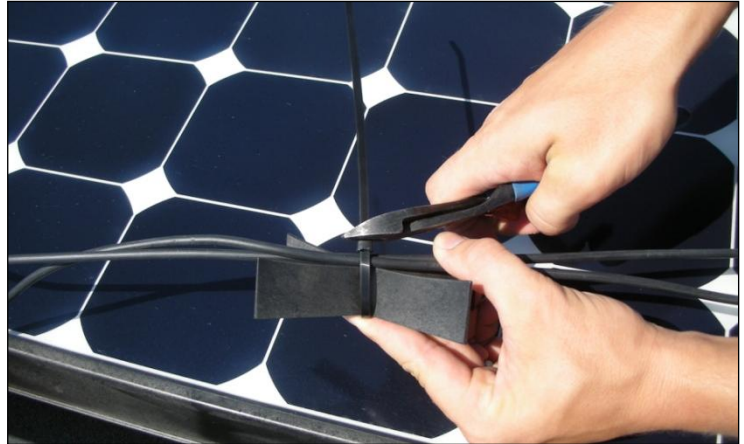

Fig. 79
6. Snip off the excess tie, leaving approximately 1/4" (6 mm) remaining (Fig. 79).